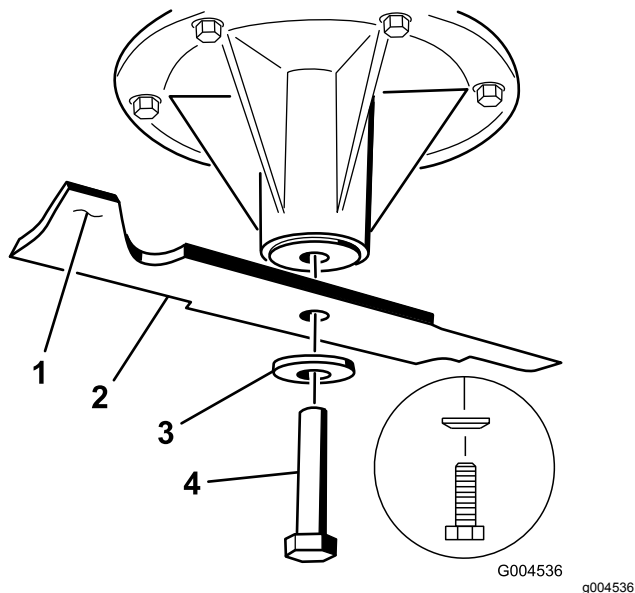

Figure 99
1. Install the blade onto the spindle shaft (Figure 99).
2. Install the spring disk and blade bolt (Figure 99).
- Note:** The spring-disk cone must be installed toward the bolt head (Figure 99).